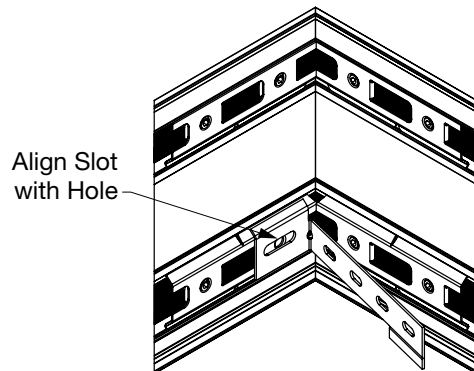

Fig 45
- Place the PCC at the corner location with the slot aligning with the now empty screw hole (**Fig 45**)